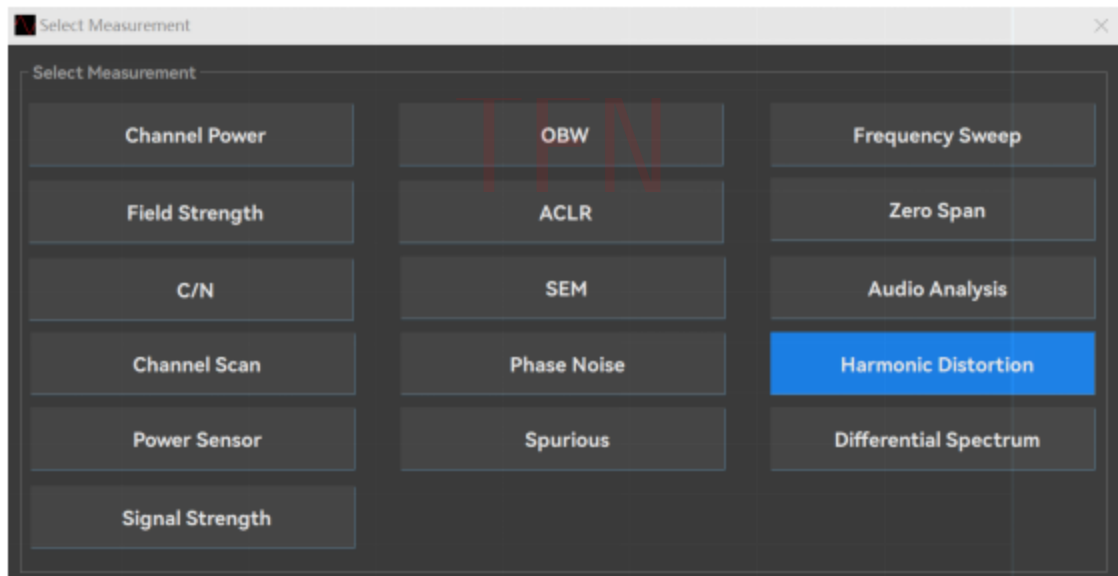

Figure 5.35 Select the measurement interface diagram
- Step 3. Press [measurement] to select [harmonic distortion], the interface display as shown in Figure 5.35: